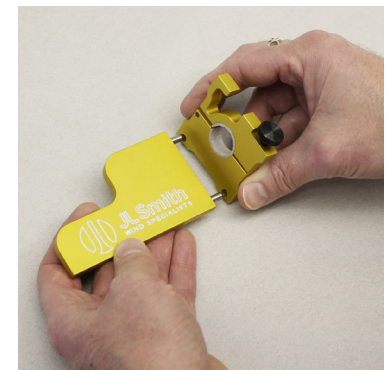

Fig. 11: Inserting the Piano Base.
- Base plate pins insert into either side of the cradle depending on how you want to orient the body (Fig. 11).